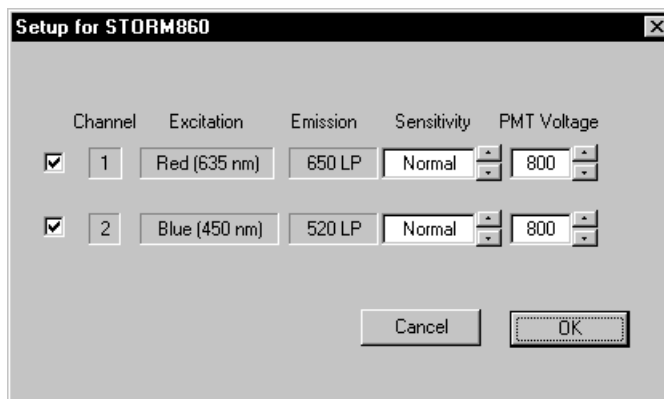

Figure 9-5. The Setup window for the Storm 860, which contains parameters for both red-excited (channel 1) and blue-excited (channel 2) fluorescence.
- **Model 860**—Scan parameters for red-excited (channel 1) and blue-excited (channel 2) fluorescence (figure 9-5). You can scan using one or both excitation parameters. If you scan using both excitation parameters, Scanner Control creates a multichannel image consisting of one image of the blue-excited fluorescence and one image of the red-excited fluorescence.